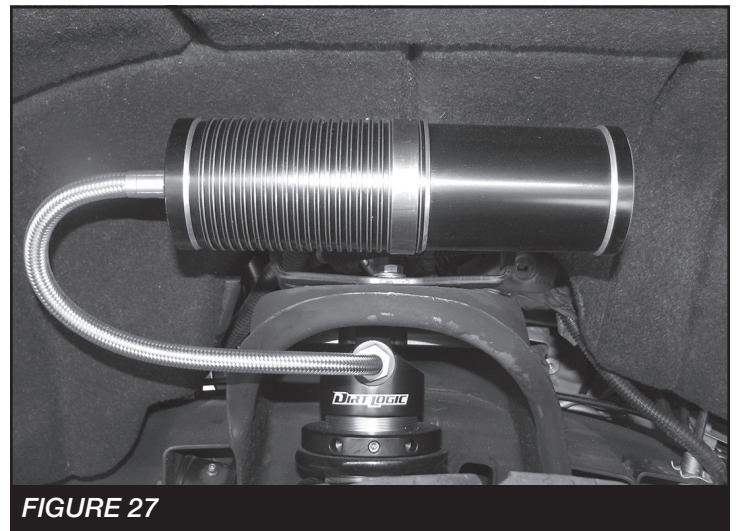

FIGURE 27
27. If installing Dirt Logic coilover, FTS825282 or FT820282D & P, do so at this time using hardware provided with that shock. **NOTE: See Figure 27 for resi mount orientation.** Otherwise, continue with Step 29 with the factory shock.